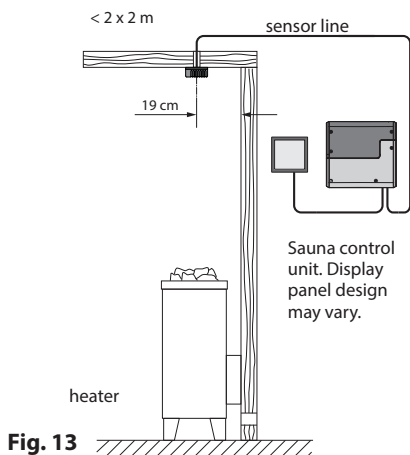

Fig. 13
1. Mount the heater sensor in cabins up to 2 x 2 m according to fig. 13, in larger cabins according to fig. 14.